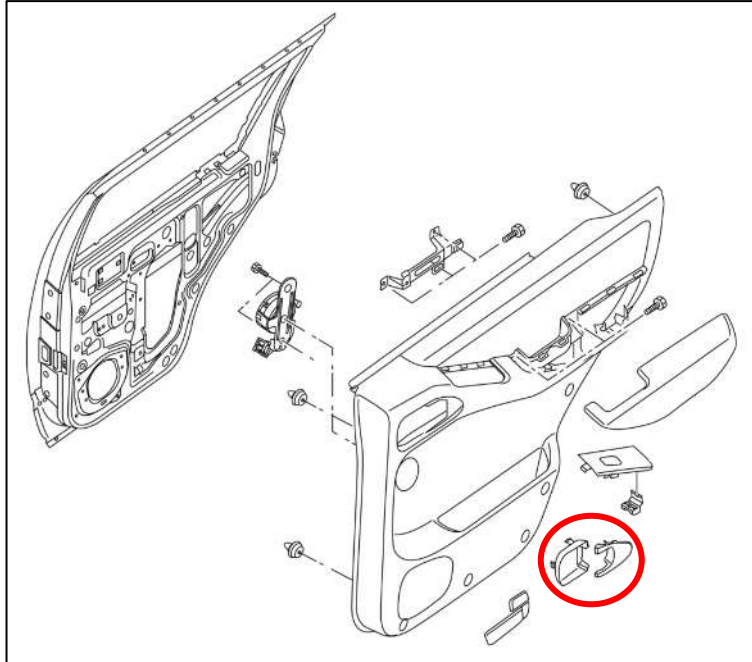

Figure 81
2. Remove the Trim Piece behind the Door Handle with a Trim Removal tool. *Figure 81.*